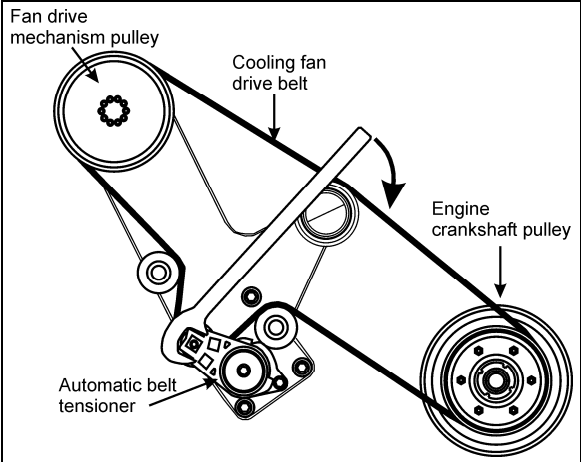

FIGURE 30: DRIVE BELT ROUTING (VOLVO D13 ENGINE)
1. Wrap the new drive belt around the fan drive mechanism pulley, the idlers and the automatic tensioner idler as shown on figure 30.
2. Using the special tool included with your vehicle (see inside the Warning Reflectors box located in the first curb-side baggage bay), rotate the automatic tensioner in clockwise direction to relieve tension on the belt and hold the tensioner in that position (Fig. 30).